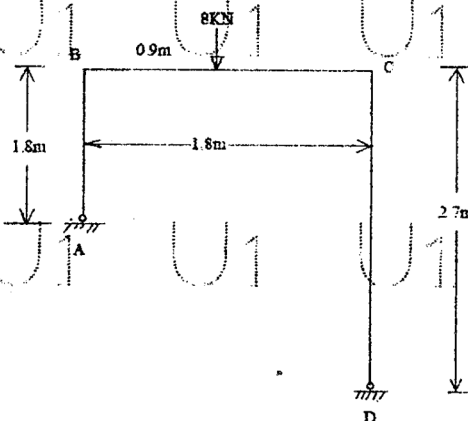

Figure: 7
9. Analyse the portal frame ABCD as shown in Figure 7. The ends A and D are hinged.  $EI = \text{constant}$  for the entire frame. Draw the BMD. (Use Slope Deflection Method). [10]